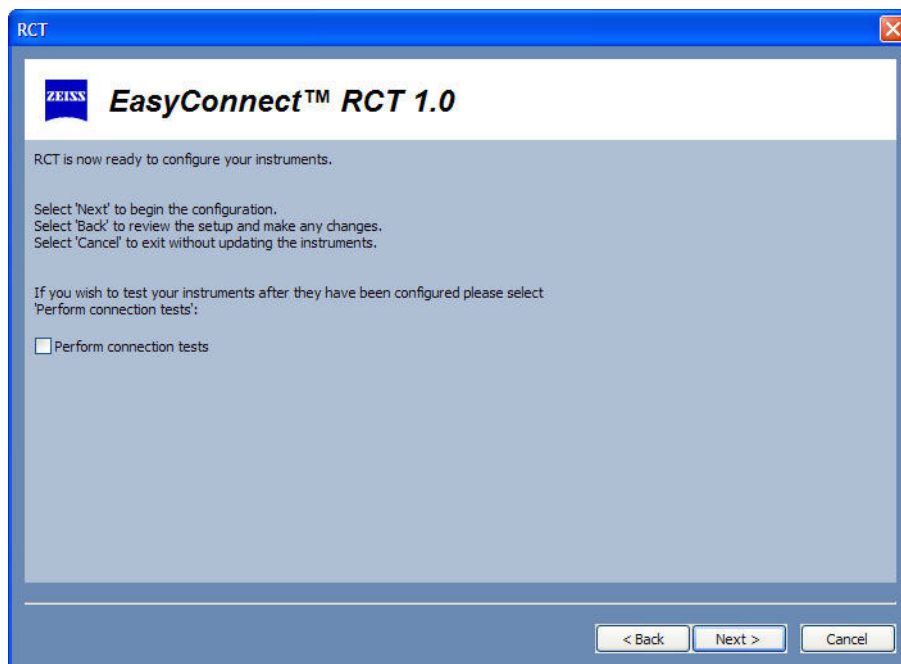

Figure G.19 Commit Screen
- 4 The RCT will display a Commit screen (Figure G.19) before sending configuration messages to any instrument. This screen gives you a last chance to make corrections before committing the specified changes. Select BACK to go back to the previous screen(s) to make any corrections. Selecting CANCEL will exit the RCT without configuring any of the selected instruments.